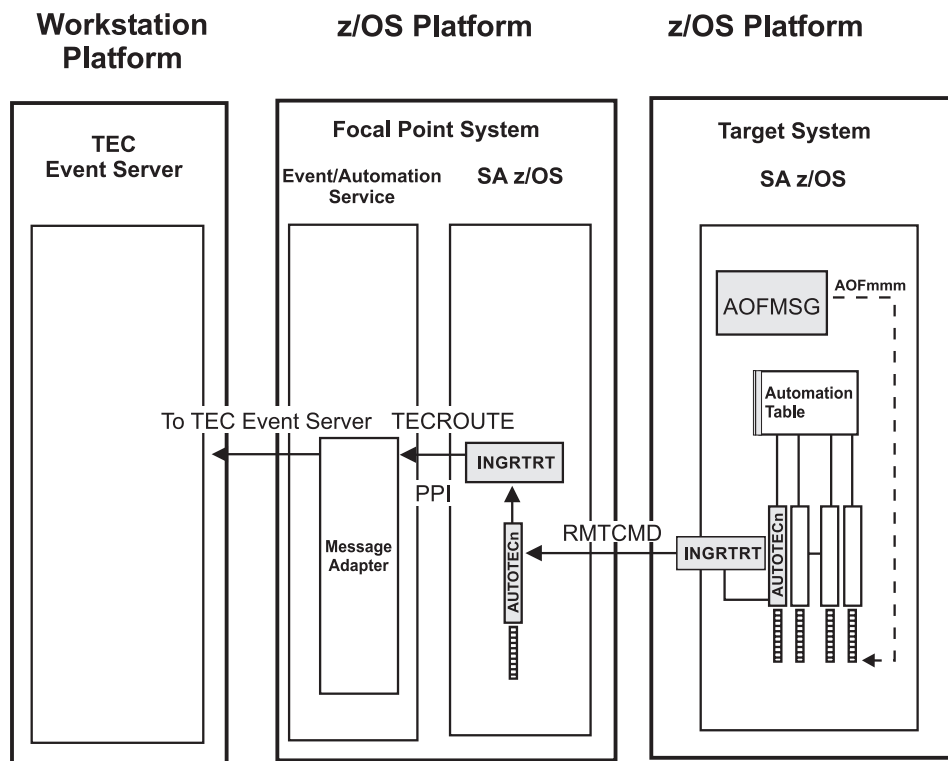

Figure 8. Distributed Configuration: NetView Event/Automation Service Remote to the SA z/OS Source of Messages
- *distributed configuration:* The message adapter or alert adapter is running on an z/OS system different from the one on which SA z/OS is running and issuing messages and alerts. In this scenario, the z/OS system running the adapters must be the SA z/OS automation focal point system. Such a configuration for message forwarding is illustrated in Figure 8 on page 43.